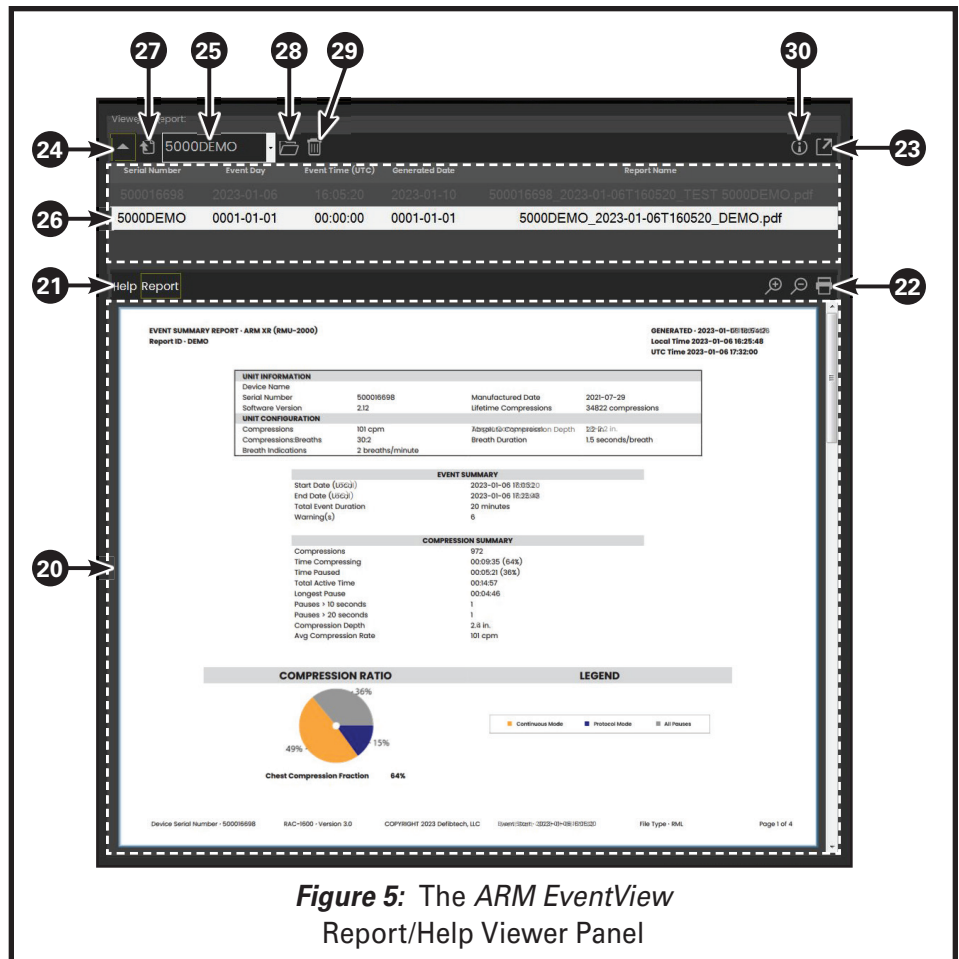

Figure 5: The *ARM EventView* Report/Help Viewer Panel
The dropdown menu also contains a listing for "5000DEMO" which has 3 sample events associated with it. These sample events are the ones shown in the *Report/Help Viewer Panel* section's *Figure 5*, item 20 on page 6 and are the ones used in the example report shown in the *Event Summary Reports* section (pages 7-9).
The Report/Help Viewer Panel is the right-most panel in the *ARM EventView* main screen and bears the heading “Viewer - Report” or “Viewer - Help.” The numbers associated with the items below correspond to the call-outs in *Figure 5*.
The Expand/Collapse to Fill Main Screen button can be used to toggle between having the Report/Help File Viewing Window (item 20) expand to fill all of the *ARM EventView* main screen's panels (the Connection/Data Extraction and Events/Report Generation panels will no longer be viewable) and collapsing it to occupy the bottom of the Report/Help File Viewer Panel (*Figure 5*).
The Expand/Collapse to Fill Panel button can be used to toggle between having the Report/Help File Viewing Window (item 20) expand to fill the entire and collapsing it to occupy the bottom of the Report/Help File Viewer Panel (*Figure 5*).